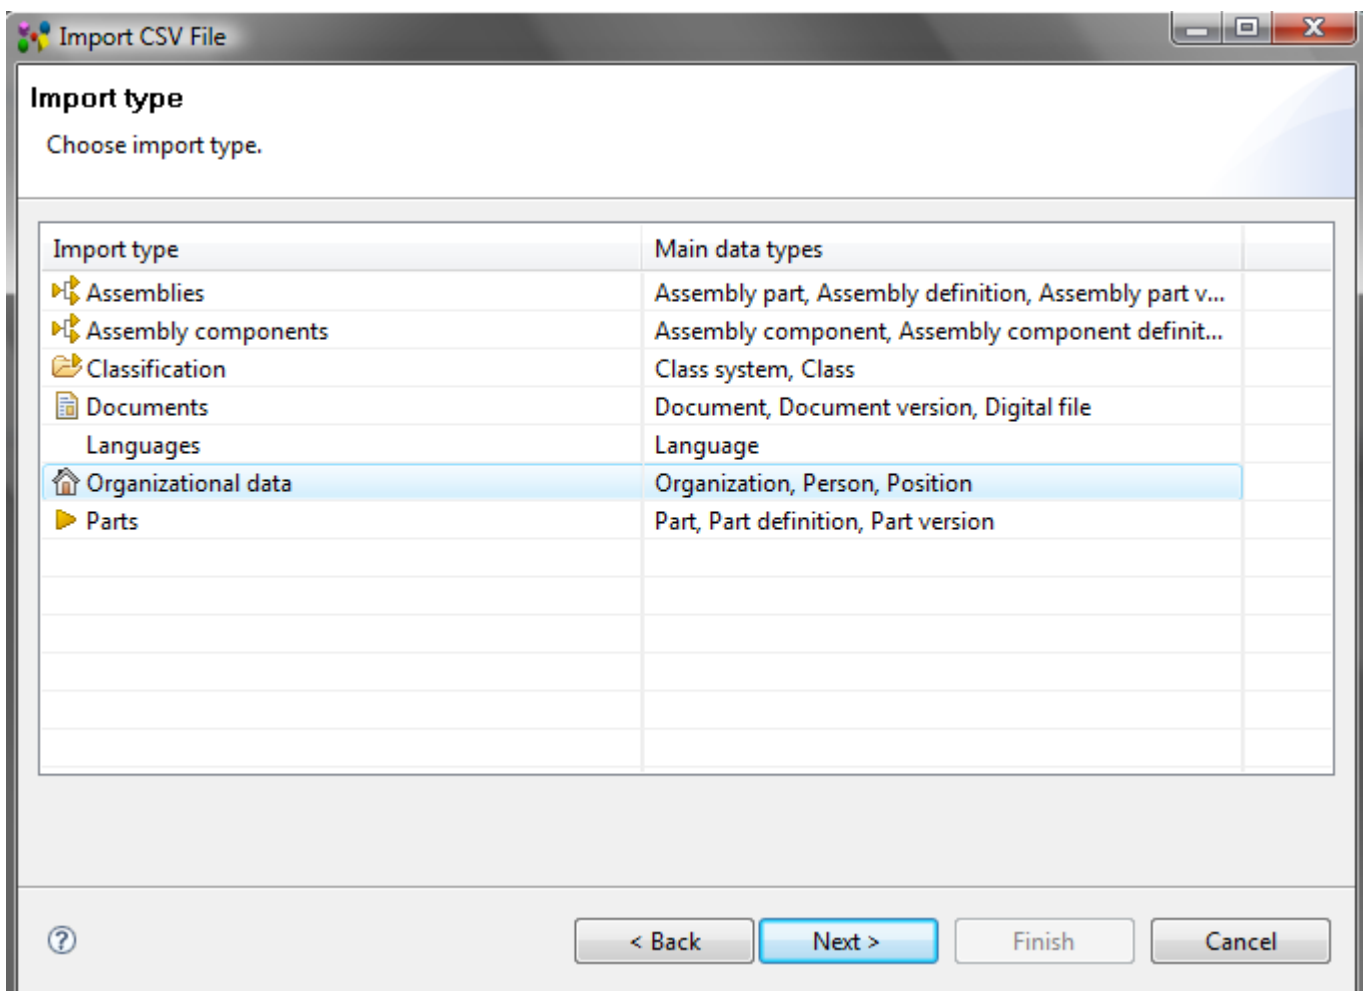

Figure 4. Import CSV file wizard page to define import type
- Press **Next** button to go to the next wizard page (see Figure 4).